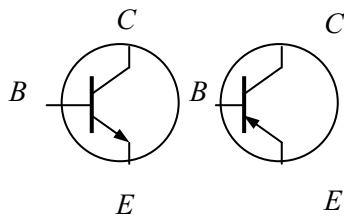

Fig. 1.20
**Basic topologies.** Fig. 1.20 presents schematic symbols of *npn* and *pnp* transistors. There are three different currents in a transistor: emitter current  $I_E$ , base current  $I_B$ , and collector current  $I_C$ . Accordingly, the three *basic schemes* of the transistor connection in electronic circuits are usually discussed: *common emitter* (CE) connection, *common base* (CB) connection, and *common collector* (CC) connection.